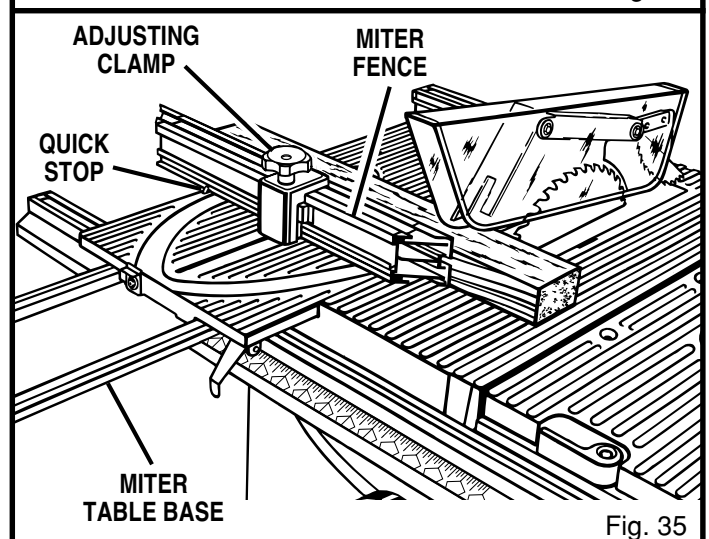

Fig. 35
See Figure 35.
- Make sure the wood is clear of the blade before turning on the saw. See Figure 35.